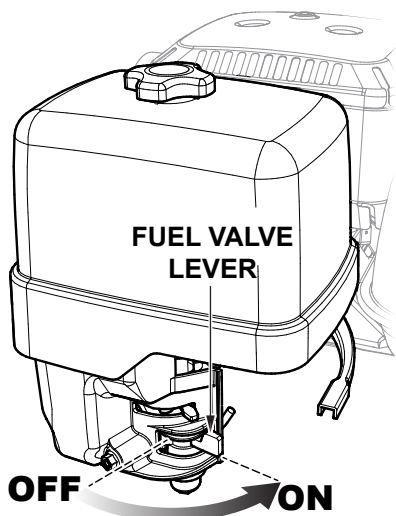

Figure 40. Engine Fuel Valve Lever (ON)
1. Place the engine fuel valve lever in the **ON** position (Figure 40).